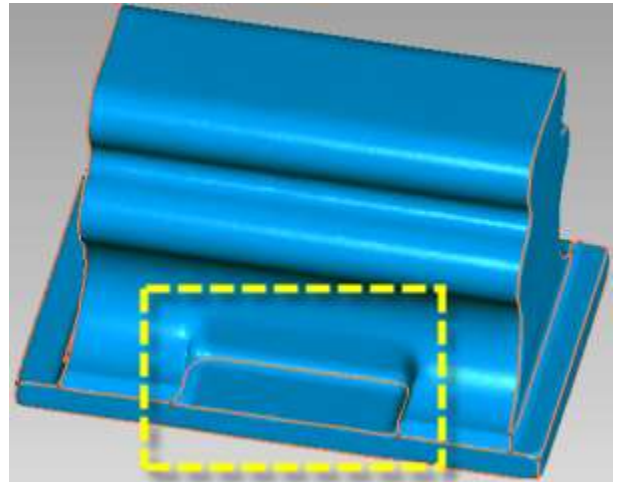

Figure 111
1. **Rotate** the model and **Zoom** to the view as shown in **Figure 111**.